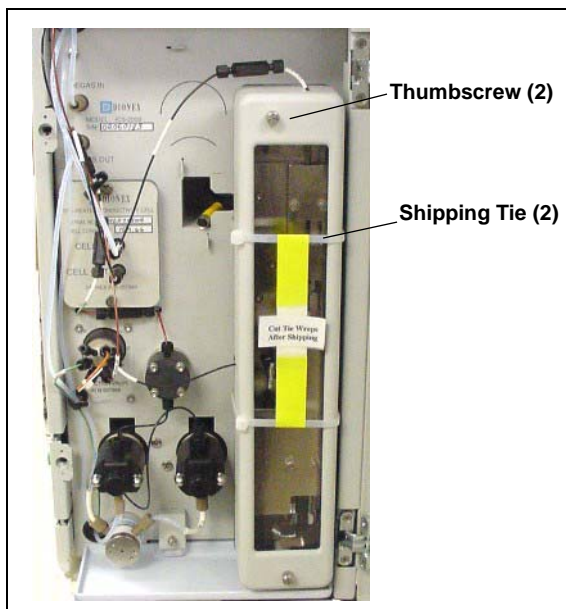

Figure 20. ICS-2000 Column Heater Setup
1. Cut off the two shipping ties from the column heater and remove them (see Figure 20).